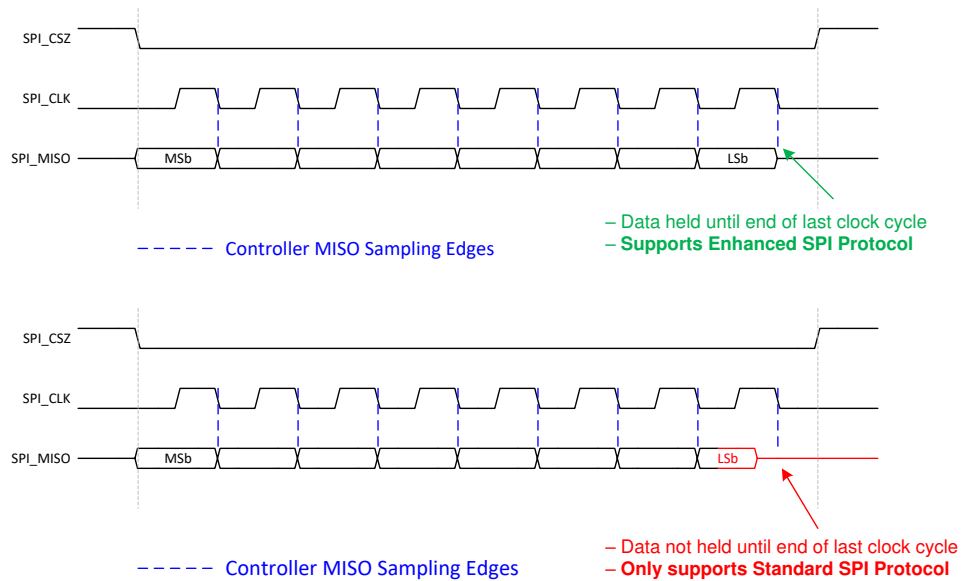

图 6-16. Requirement for Enhanced SPI Protocol
- (2) In most SPI applications, one clock edge is used by both master and slave devices for transmitting data while the other edge is use by both for sampling received data. This is referred to as *Standard SPI Protocol*. To maximize the SPI_CLK frequency potential, SPI masters can alternatively be designed to sample the data in (MISO) bit on the same clock edge used to transmit the next data out (MOSI) bit. This is referred to as *Enhanced SPI Protocol*. The DLPC6540 SPI master implementation supports both protocols (part of SPI interface configuration), however, to be able to use the "Enhanced SPI Protocol", the slave device must meet the requirement shown in 图 6-16.